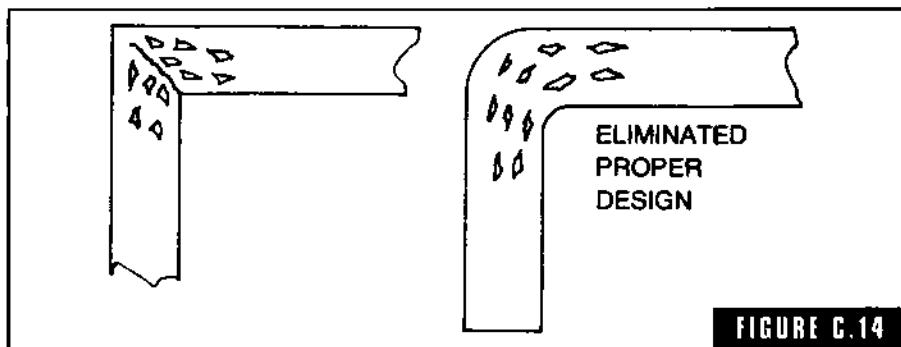

FIGURE C.14
**cleavage plane** The junction where two independent planes of crystal growth meet and interfere with each other (Fig. C-14). This con-